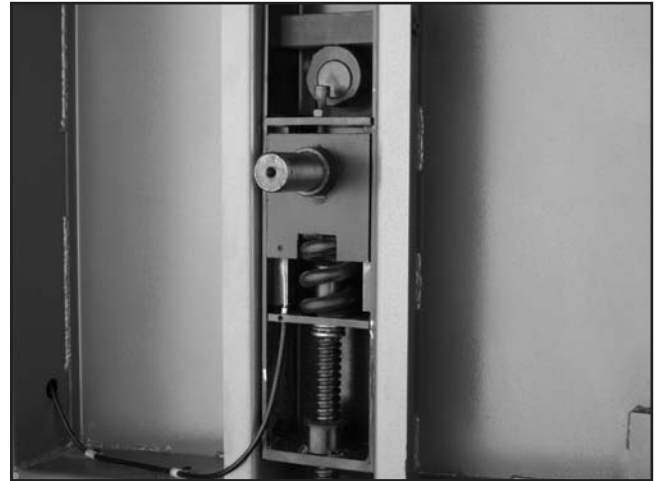

Figure 51. Wheel height limiting screw.
4. Measure how far the screw is threaded through the plate (**Figure 51**):